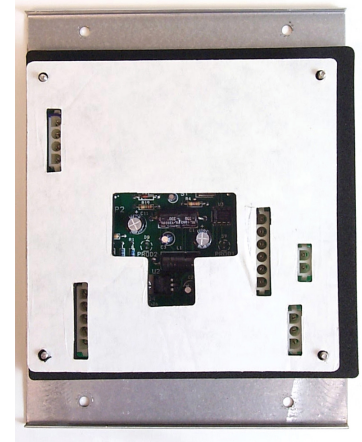
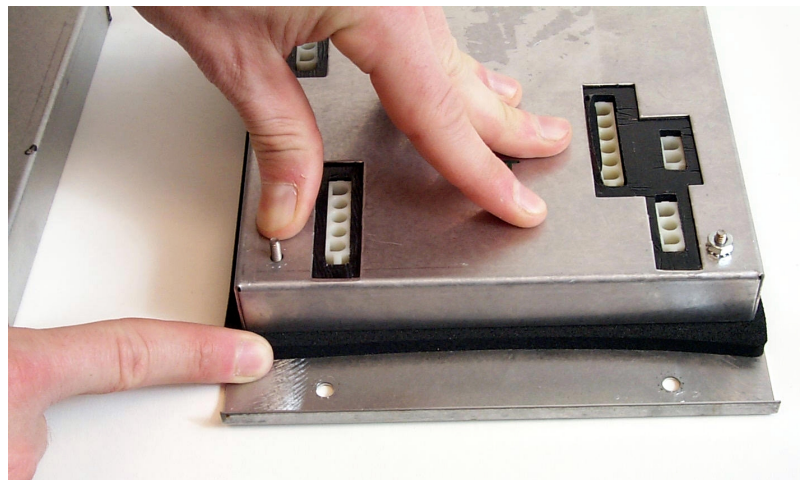

Fig.11: Position the denser gasket on the interface mounting studs with peel-off backing facing up.
Fig.12: Ensure when positioning the computer cover that its edges rest on the perimeter gasket.
- Position the denser gasket on the computer's mounting studs as shown in Fig. 11 and remove the backing. Position the new back for the computer assembly, noting the orientation of the cutouts, and lower into position on the mounting studs. Ensure the leading edge of the back cover comes to rest on the lower gasket and the adhesive backing on the gasket grips the cover. Fig 12.